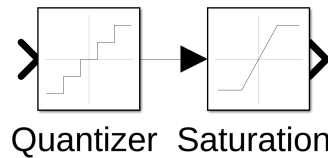

Figure 4: Quantizer with saturation.
20. In Simulink, the quantization block does not have any upper or lower limits. Try to construct a quantization block by connecting a quantizer with a saturation as shown in Figure 4. Why is the saturation necessary? [2p]